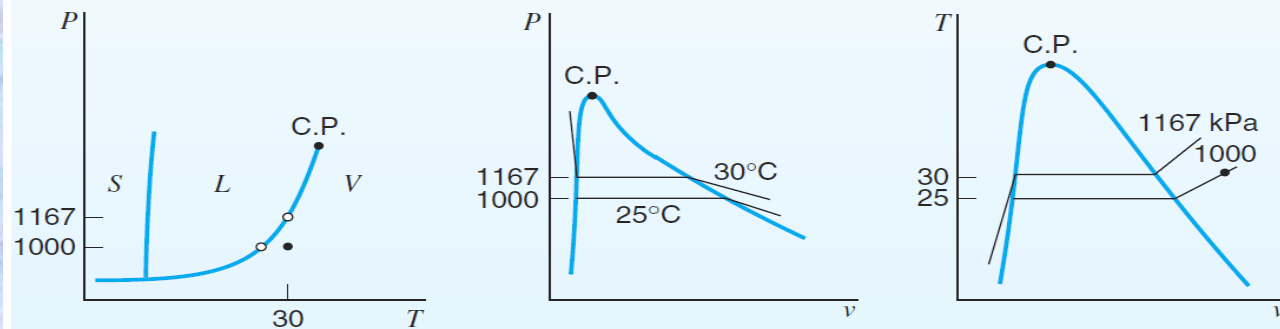

FIGURE 2.13 Diagram for Example 2.3a.
- Enter Table B.2.1 with 30°C . The saturation pressure is 1167 kPa. As we have a lower P (see Fig. 2.13), it is a superheated vapor state. We could also have entered with 1000 kPa and found a saturation temperature of slightly less than 25°C , so we have a state that is superheated about 5°C .